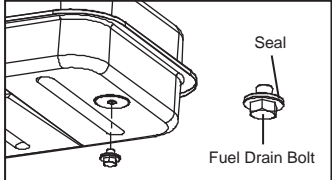

Figure 10. Fuel Drain Bolt
- 2. Remove fuel drain bolt from rear bottom side of fuel tank using 3/4" socket or adjustable wrench and drain. (For RMC-KFA125/170/210TDGD-01 Models Only. See Figure 10)
- 5. Reinstall fuel drain bolt to Fuel tank and tighten firmly using 3/4" socket or adjustable wrench. (For RMC-KFA125/170/210TDGD-01 Models Only. See Figure 10)